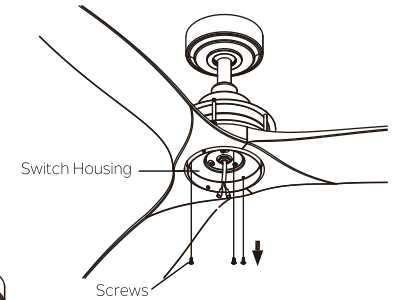

Fig. 25
Step 5. Remove the three screws pre-installed on the outer edge side of the switch housing and save for later use. (Fig. 25)